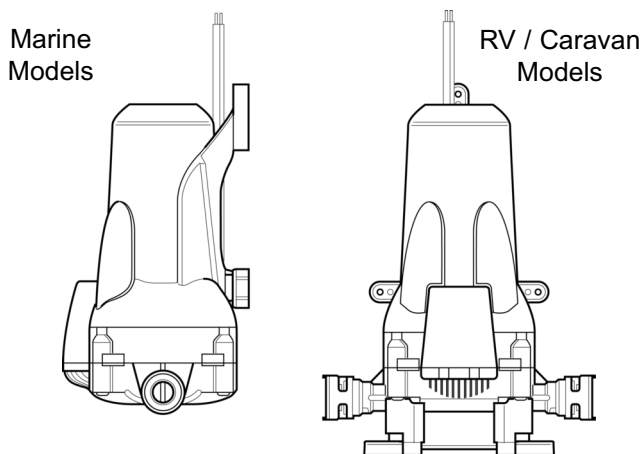
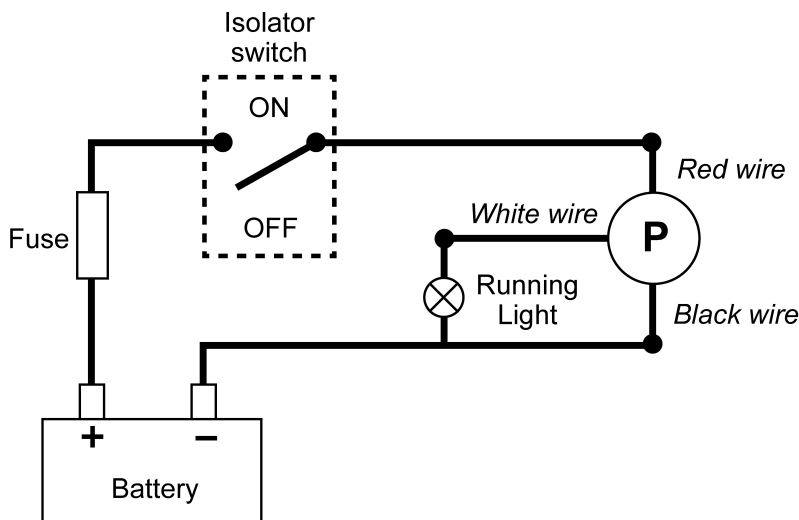

Fig 2 - Recommended Pump Mounting Orientation
Fig 6 - Wiring Diagram
| Fig. 2 | Pump Orientation | Fig. 6 | Wiring Diagram |
- Step 3** In a marine application, the pump can be mounted horizontally or vertically. In a RV/caravan application the pump **must** be mounted vertically. We recommend that the pump head is mounted below motor level (Figure 2). For advice on your specific installation, please contact Whale® support.